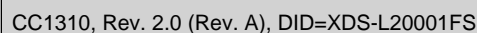

Figure 2. Device Identification with SmartRF™ Studio
- When connecting to a CC1310 device, the version number is shown in the lower-left corner (see Figure 2).